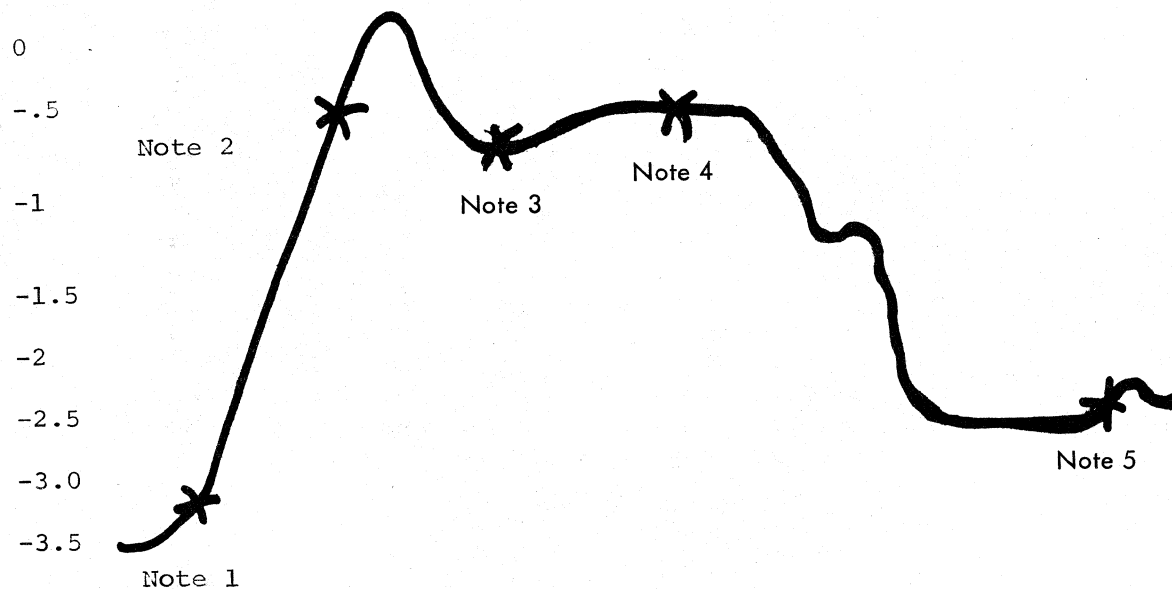

FIGURE 1
- B. See Figure 1 for examples of acceptable waveforms: